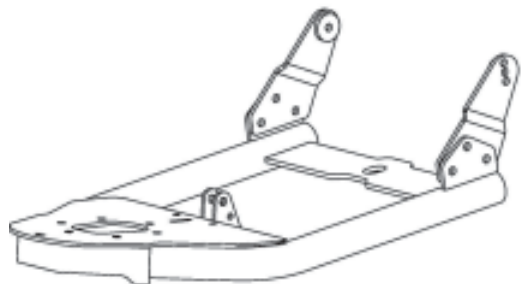

Figure 10
12. Attache the left and right bolt on flanges onto the push tubes. See Figure 10. The left and right bolt on flanges will be found in the plow mounting kit, the hardware for attaching the flanges to the push tubes will be found with the push tube assembly kit.